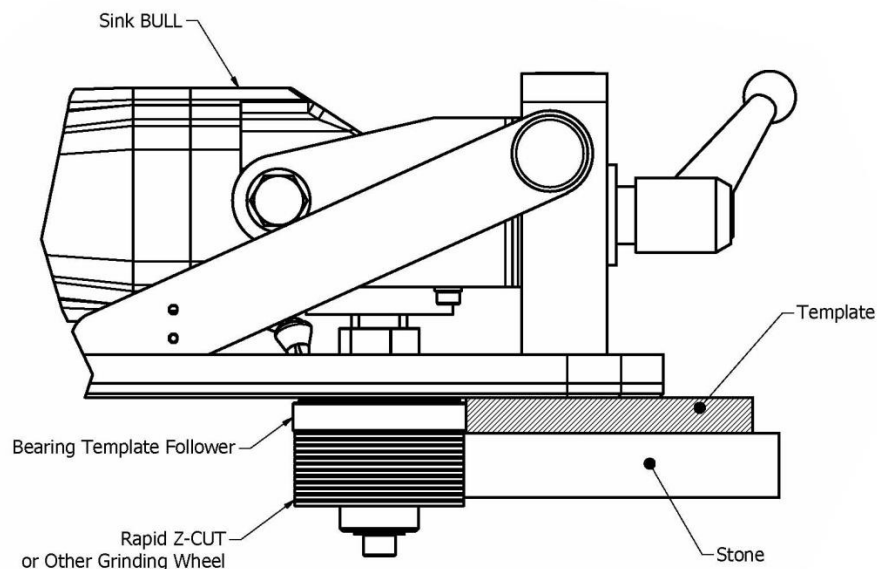

FIGURE 10 – Set Grinding Wheel Height so Bearing Rides on Template
11. Adjust the height of the grinder until the bearing is riding on the template and the grinding wheel is removing the stone (see Figure 10).